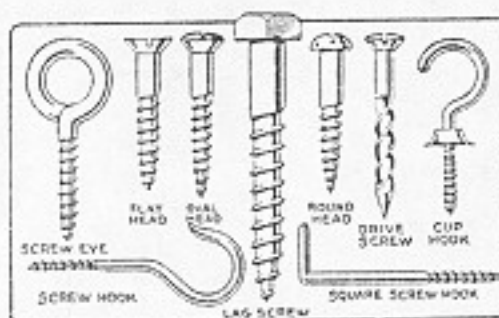

Fig. 286. Screws.
1. Screws used for wood are classified according to the shape of their heads, as flat head, round head, and oval head, and according to the material of which they are made (Fig. 286).
5. Lag screws (Fig. 286) have a square head like a bolt, and are driven in place with a wrench instead of a screw driver. They are made in diameters from $\frac{1}{4}$ to 1 in., and in lengths from 1 to 16 in. They are used in heavy timber construction.
6. Screw hooks, cup hooks, and screw eyes (Fig. 286) are made of steel, brass, and galvanized iron, and are obtainable in many different sizes. They are inserted in wood like ordinary screws, and are used as supports for keys, kitchen utensils, curtains, pictures, mirrors, and many other objects. Small screw eyes are inserted in the backs of picture frames for holding the picture wire which is twisted around them.